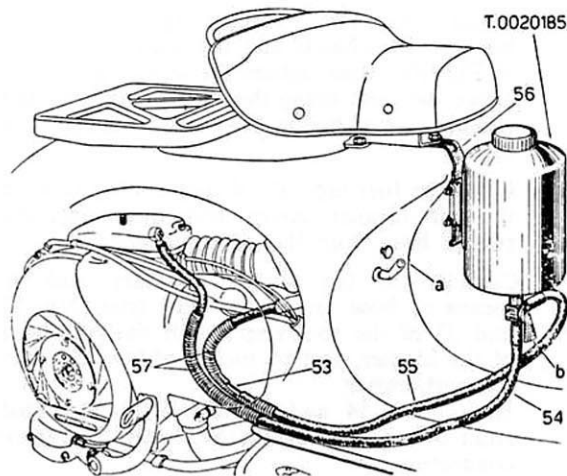

Fig. 105. Fuel tank for consumption test.
- (a) Clamp the tank bracket (part No. 56) between the chassis and the saddle as shown in Fig. 105, then tighten the screw again. Move the tank along the bracket until its tap reaches a level higher than that of the scooter tap.